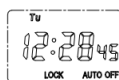

Figure 12
6.2.5 After setting, press “MD” for 5s, enter operation state, the time switch locks automatically, “LOCK” shows, and see Figure 12.